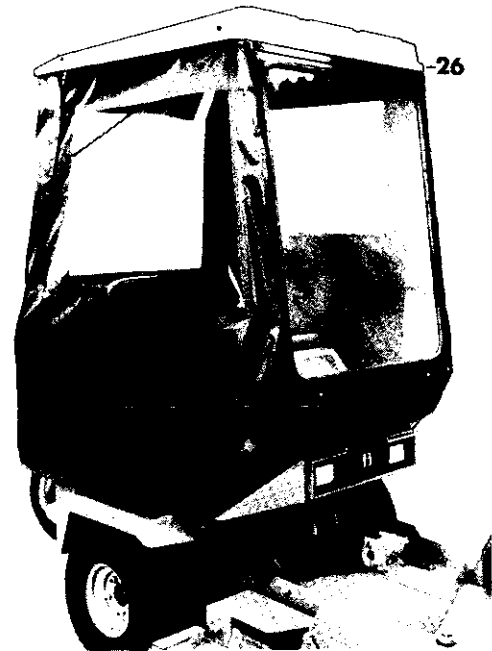

FIGURE 14
STEP 14; SEE FIGURE 14:
- A. Place the rod sewn-into the rear curtain over the top frame. Place the PLASTIC TOP (26) onto the top frame so that the rod is held in place.